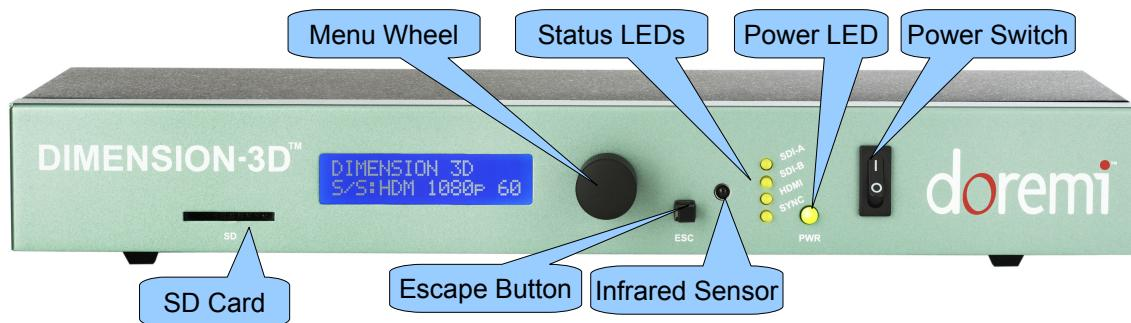

Figure 2: Dimension3D Front Panel View
- The scroll wheel with built in "Select" button and the "ESC" (escape) button can be used to navigate the menu structure and modify the settings (Figure 2).
Note: Throughout this section the phrase “press Select” refers to pressing the front panel scroll wheel button of the Dimension-3D (Figure 2).